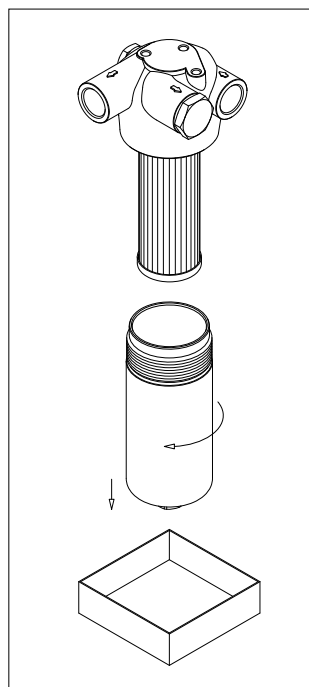

fig. 10
- (Fig. 10) Unscrew the filter bowl after placing a vessel to collect the operating fluid